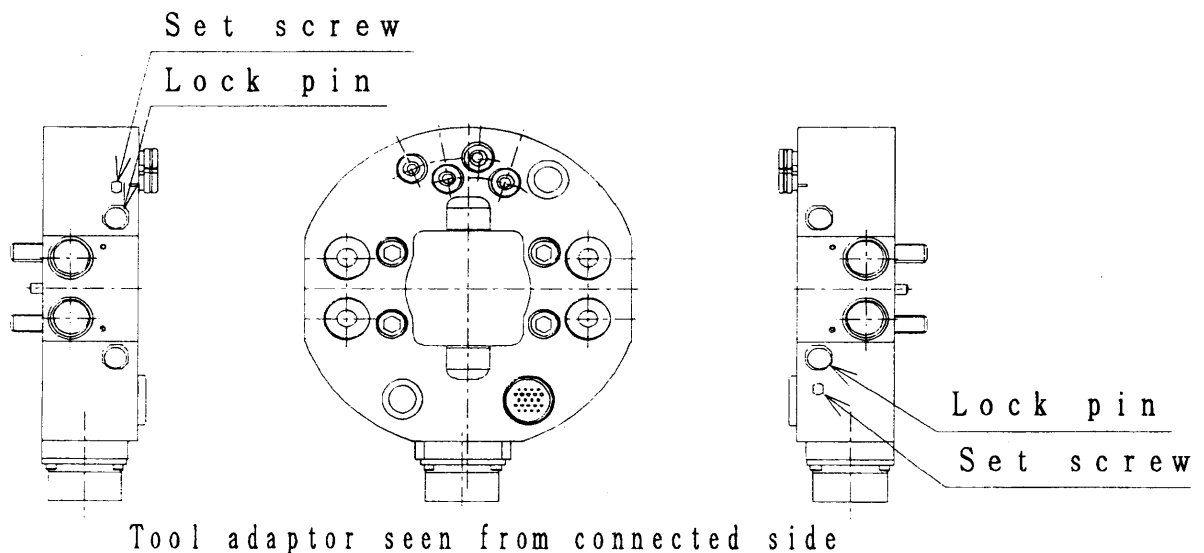

Fig. 6 Manual separation
- ② Confirm the air application on "UNCHUCK" port
- ③ Set screw (Refer to Figure 6) two places of the tool side housing can be detached, and the tool compulsion separate by the thing to begin to beat two lock pins.